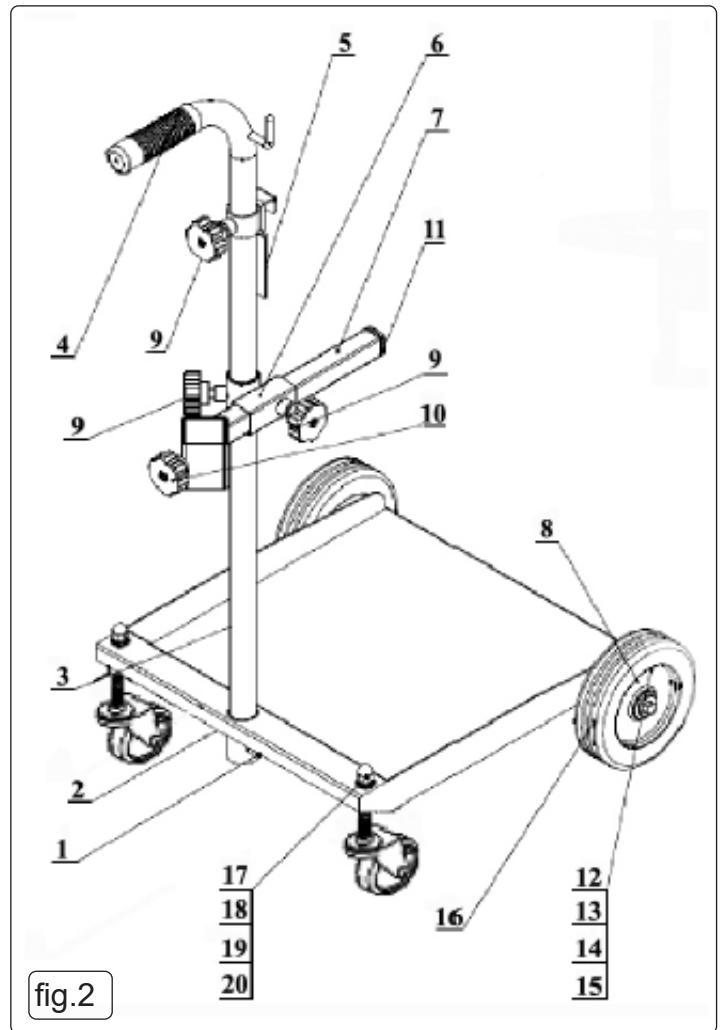

fig.2
4.1. TROLLEY ASSEMBLY (FIG.2).